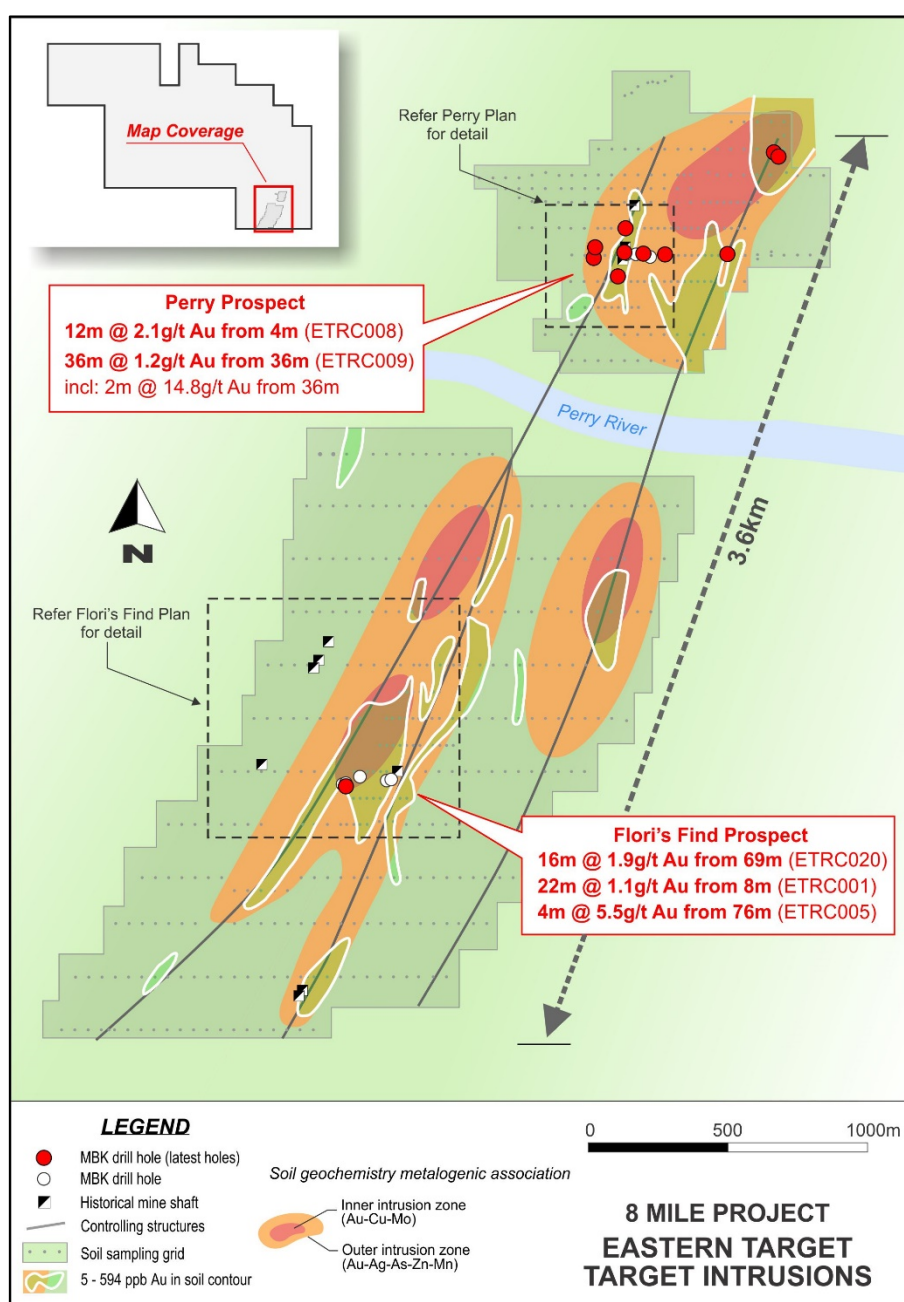

Figure 2: Eastern Target showing drilling and MBK soil geochemistry.
Metal Bank Limited (ASX: MBK) ('Metal Bank', 'MBK' or the 'Company') is pleased to provide the following drilling update from the Eastern Target of the 8 Mile Project in southeast Queensland, Australia (refer Figure 1). Results have been received from a reverse circulation (RC) drilling and diamond (DD) drilling programme designed to investigate the geometry of near surface gold mineralisation intersected in recent drilling¹ and investigate initial targets interpreted in the IP geophysical data. Ten holes were completed for 1097m RC with two holes extended as diamond drill tails for 237.7m. Nine holes were completed at Perry prospect and one hole was completed at Flori's Find prospect (refer Figure 2).
Data suggests that gold mineralised intrusives at both Flori's Find and Perry prospects are linked. They both lie within the same structural corridor 3.6km long defined by surface geochemistry typical of intrusion related gold systems and with ore geometries both dipping towards the west at 30 to 40 degrees (refer Figure 2).